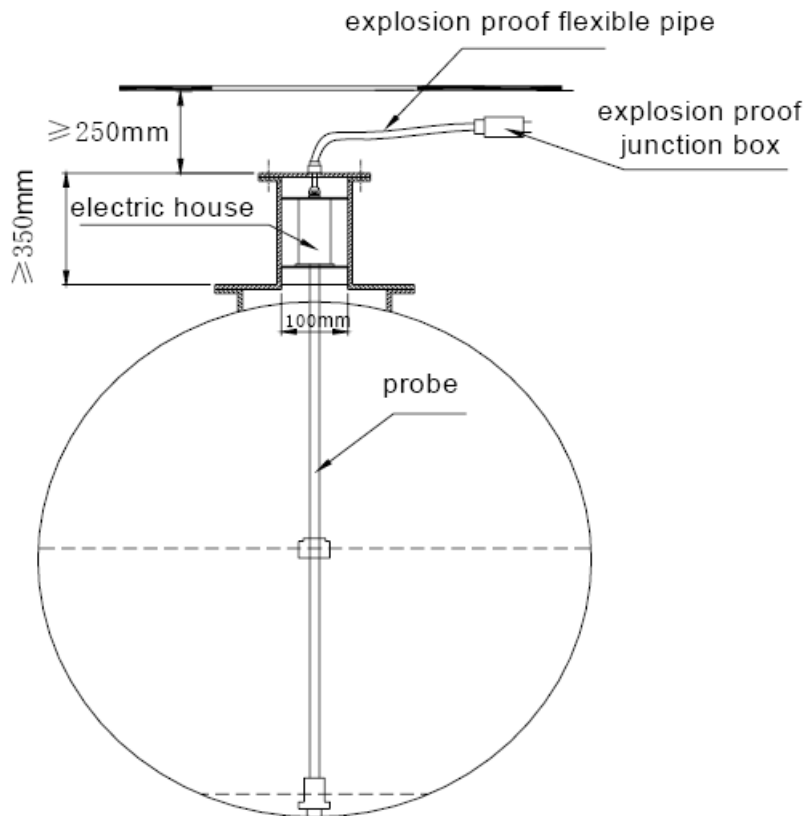

Fig 6
- Insert probe into oil tank carefully by two hands, then hold fixed plate and adjust probe to be vertical, installation position please see Fig 6.